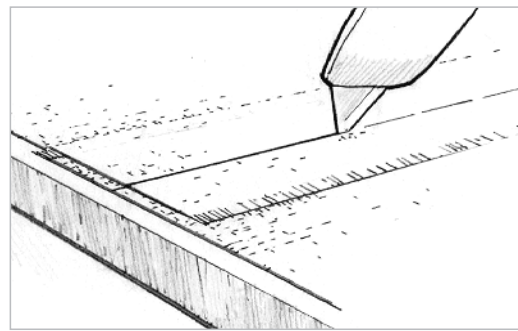

Figure 5-20 Trim overlapping fabric using a metal straightedge and a sharp utility knife, for a flush butt joint.
- b) Cut through both layers of cloth with a sharp utility knife (*Figure 5-20*).